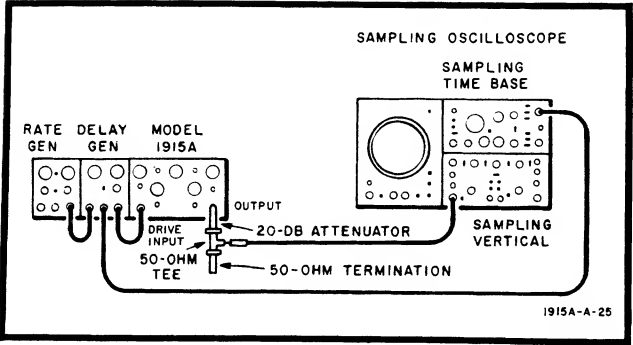

Figure 5-7. Sampling Oscilloscope Test Setup
a. Connect equipment as shown in Figure 5-7.